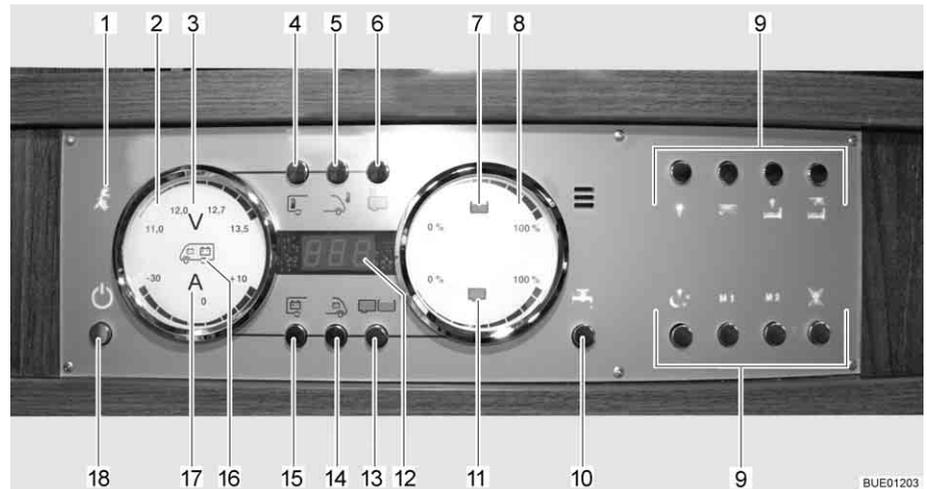

Fig. 136 Panel LT 510
The 230 V indicator lamp (Fig. 136,1) illuminates whenever line voltage is available at the transformer/rectifier input.
The 12 V main switch (Fig. 136,18) switches the panel and the 12 V power supply of the living area on and off.
- Briefly press the 12 V power supply button (Fig. 136,18). The 12 V living area power supply is switched on. The "12 V" indicator lights up.
- ▷ If, after switching on, the "11.0" LED of the volt indicator and the "V" volt symbol (Fig. 136,3) in the batteries gauge (Fig. 136,2) flash, the voltage of the living area battery is too low. Charge battery.
- ▷ If, after switching on, the "12 V" indicator and the "V" volt symbol (Fig. 136,3) flash three times, battery separation is activated. Deactivate battery separation.
- Briefly press the 12 V power supply button (Fig. 136,18). The 12 V living area power supply is switched off. The "12 V power supply" indicator goes out.
- Press button for living area battery (Fig. 136,15) and hold it down for approx. 10 seconds. The "V" volt symbol (Fig. 136,3) and the "12 V" indicator flash three times. The living area battery is disconnected from the 12 V power supply.
- Press the 12 V power supply button (Fig. 136,18) and hold it down for approx. 5 seconds. The "V" volt symbol (Fig. 136,3) and the "12 V" indicator flash three times. The living area battery is connected to the 12 V power supply. The indicator lights up after approx. 5 seconds.
- Press button for living area battery (Fig. 136,15). The "V" volt symbol (Fig. 136,3) lights up. The "A" ampere symbol (Fig. 136,17) lights up as either white or red depending on whether it is charging or discharging. The battery voltage and electricity of the living area battery are displayed via the LEDs in the gauge.
- Press button for starter battery (Fig. 136,14). The "V" volt symbol (Fig. 136,3) lights up. The battery voltage of the starter battery is displayed using the LEDs in the gauge.
- Press tanks button (Fig. 136,13). The water tank (Fig. 136,7) and waste water tank (Fig. 136,11) symbols light up. The fill levels of the water tank (upper scale) and of the waste water tank (lower scale) are indicated using the LEDs in the gauge.
**Tank alarm** The water tank symbol (Fig. 136,7) or waste water tank symbol (Fig. 136,11) flashes when the water tank is empty or the waste water tank is full.
The internal and external temperatures can be indicated using the digital display (Fig. 136,12).
*Displays:* ■ Press the button for the internal temperature (Fig. 136,4). The internal temperature is displayed.
■ Press external temperature button (Fig. 136,5). The external temperature is displayed.